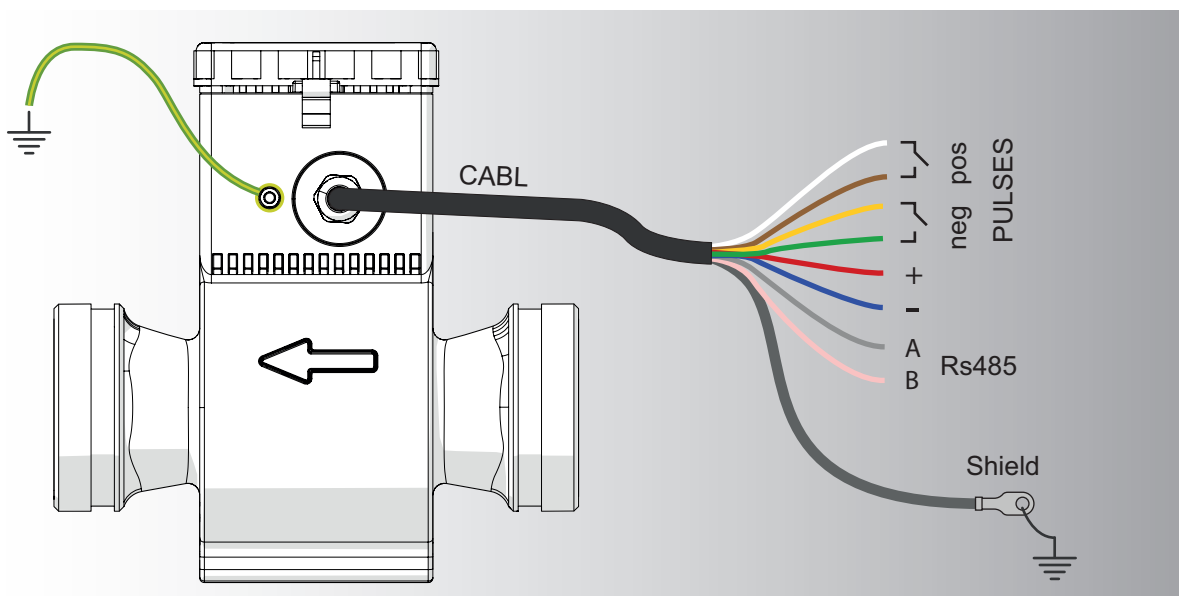

Fig. 38 Electrical Wiring
-  In order to properly connect electrical elements of the MUT7000 meter to the power supply and I/O connections please refer to the wiring diagram shown in paragraph 4.6.1 (Fig. 38).
**i** The manufacturer has identified all the power cables and signal cables that have to be connected by marking them with a colour in order to ease the identification of the correct connection terminals (Fig. 38).